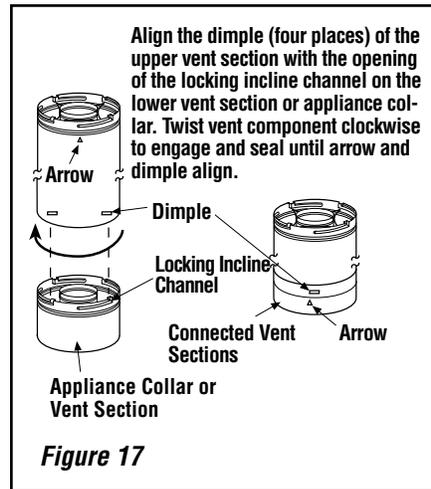

Figure 17
B. Attach vent components to appliance—Secure Vent® SV8 direct-vent system components are unitized concentric pipe components featuring positive twist lock connections (*see Figure 17*).
To attach a vent component to the appliance collar, align the dimpled end over the collar, adjusting the radial alignment until the four locking dimples are aligned with the inlet of the four inclined channels on the collar (*refer to Figure 17*). Push the vent component against the collar until it fully engages, then twist the component clockwise, running the dimples down and along the incline channels until they seat at the end of the channels. The unitized design of the **Secure Vent** components will engage and seal both the inner and outer pipe without the need for sealant or screws. If desired a #6 x 1/2" screw may be used at the joint, but it is not required as the pipe will securely lock when twisted.
Push the vent component against the previous section until it fully engages, then twist the component clockwise running the dimples down and along the incline channels until they seat at the end of the channels. **This seating position is indicated by the alignment of the arrow and dimple as shown in Figure 17.**
F. Change vent direction to horizontal/inclined run—At transition from or to a horizontal/inclined run, install the SV8 E45 and SV8 E90 elbows in the same manner as the straight vent sections. The elbows feature a twist section to allow them to be routed about the center axis of their initial collar section to align with the required direction of the next vent run element. **Twist elbow sections in a clockwise direction only so as to avoid the possibility of unlocking any of the previously connected vent sections.** See **Figure 17 on Page 16** and **Figure 19**.
Secure Vent SV8 direct-vent system components are unitized concentric pipe components featuring positive twist lock connection, (refer to **Figure 17 on Page 16**). All of the appliances covered in this document are fitted with collars having locking inclined channels. The dimpled end of the vent components fit over the appliance collar to create the positive twist lock connection.
C. Frame ceiling opening—If the vertical route is to penetrate a ceiling, use plumb line to locate the center above the appliance. Cut and/or frame an opening, 13" x 13" (330 mm x 330 mm) inside dimensions, about this center (refer to **Figure 17 on Page 16**).
E. Attach vent components to each other—Other vent sections may be added to the previously installed section in accordance with the requirements of the vent tables. To add another vent component to a length of vent run, align the dimpled end of the component over the inclined channel end of the previously installed section, adjusting the radial alignment until the four locking dimples are aligned with the inlets of the four incline channels of the previous section. Push the vent component against the previous section until it fully engages, then twist the component clockwise running the dimples down and along the incline channels until they seat at the end of the channels. **This seating position is indicated by the alignment of the arrow and dimple as shown in Figure 17 on Page 18.**
H. Change vent direction—At transition from or to a horizontal/inclined run, install the SV8E45 and SV8E90 elbows in the same manner as the straight vent sections. The elbows feature a twist section to allow them to be routed about the center axis of their initial collar section to align with the required direction of the next vent run element. **Twist elbow sections in a clockwise direction only so as to avoid the possibility of unlocking any of the previously connected vent sections (see Figure 17 on Page 18).**